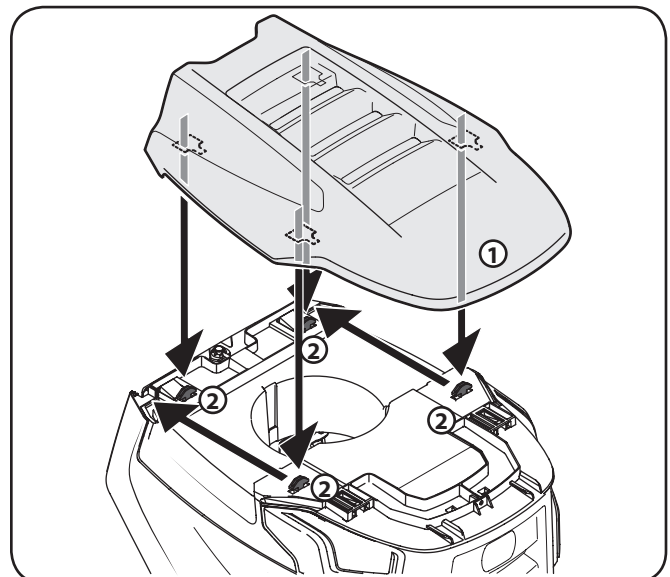

Figure 3-6
To install the hood topper (1), line up the holes on the hood topper (1) up with the tabs (2) in the hood frame as shown in Figure 3-6. Insert the tabs (2) into the hood topper and pull back to lock into place.